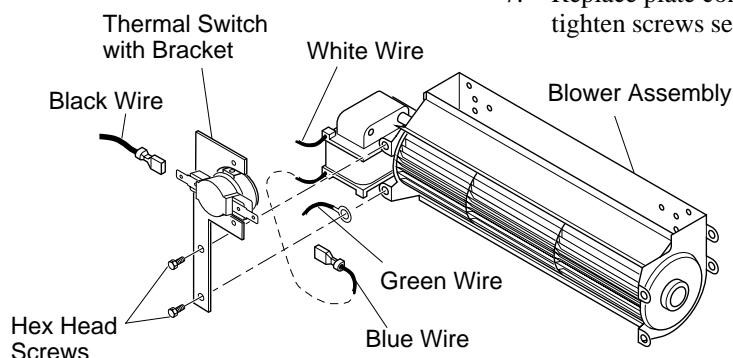

Figure 29 - Attaching Thermal Switch to DA3610TA Thermostatically-Controlled Blower Accessory
1. Remove the two hex head screws on the blower assembly as shown in Figure 29.